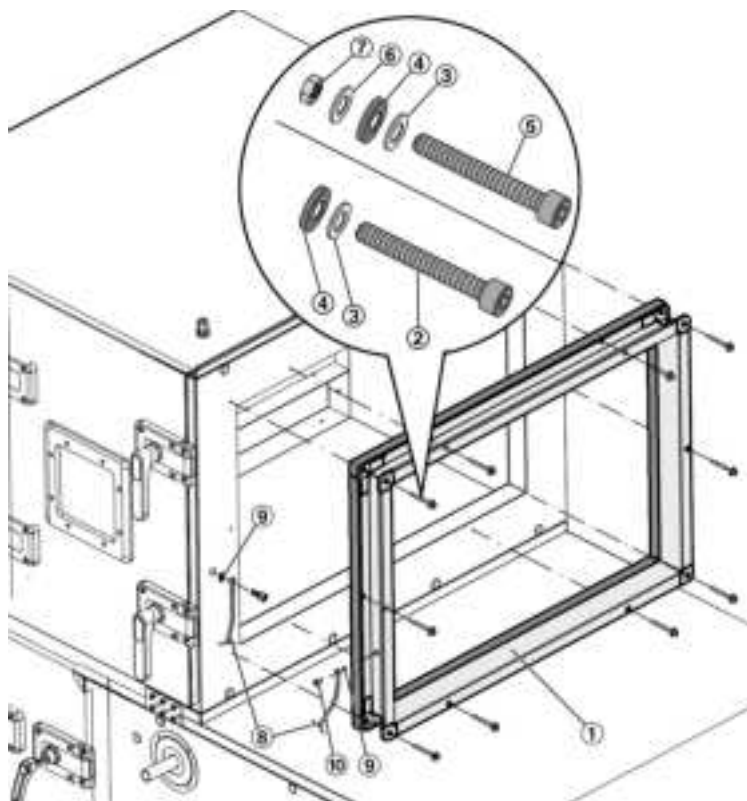

Fig. 19: Installing the noise insulating connector
②	Thread forming socket cap head screw M6 × 40	A00000055910	A00000055911	–	–
③	Washer Ød 6.4	M332AA3	M333AA3	M332AA3	M333AA3
④	Rubber seal 17 × 6.5 × 3	M338BD0
⑤	Socket cap head screw M6 × 40	–	–	A00000018868	A00000056190
⑥	Washer Ød 6.4	–	–	M332AF9	M333AC3
⑦	Nut M6	–	–	M332AD6	M323AA3
⑧	Ground cable	A00000026651
⑨	Lock washer, serrated	M332KB4	A00000045194	M332KB4	A00000045194
⑩	Pan head screw M6 × 12	M852AC6
⑪	Socket cap head screw M6 × 30	M852AC4
1. ▶ Place the noise insulating connector (Fig. 19 /1) on the air handling unit with the perimeter seal facing down; fix it with thread forming screws (Fig. 19 /2), rubber seals (Fig. 19 /4) and washers (Fig. 19 /3).
If the noise insulating connector is to be attached to a multileaf damper, fix it with the supplied socket cap head screws (Fig. 19 /5), rubber seals (Fig. 19 /4), washers (Fig. 19 /3 and 6) and nuts (Fig. 19 /7).
2. ▶ Fix one eye of the ground cable (Fig. 19 /8) with a pan head screw M6 × 12 (Fig. 19 /10) and a serrated lock washer (Fig. 19 /9) to the noise insulating connector.
3. ▶ Fix the other eye of the ground cable with a socket cap head screw M6 × 30 (Fig. 19 /11) and a serrated lock washer through the panel sheet to the tubular frame of the air handling unit.